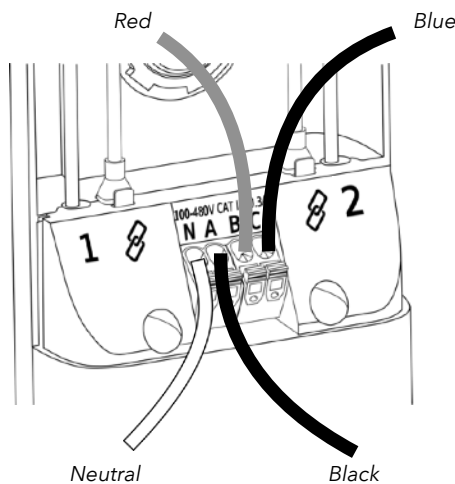

Fig 10
- Three-Phase Wye Panel. **Fig 10.**